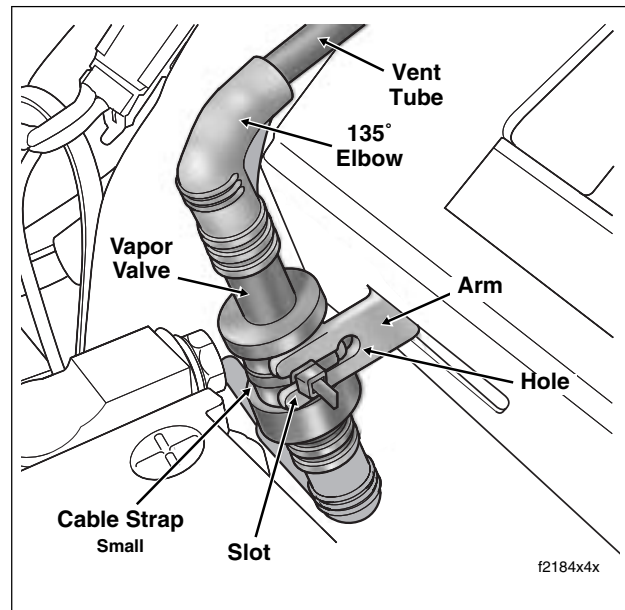

Figure 4-22. Vapor Valve Mounting Bracket
4. Locate vapor valve attached to frame cross member in front of battery box (left side). See Figure 4-22.
2. From right side of bracket, insert end of small cable strap (P/N 10065) through hole in arm and then around body of vapor valve. Mate ends of cable strap and pull tight engaging strap in slot of arm. Cut any excess cable strap material. See Figure 4-22.